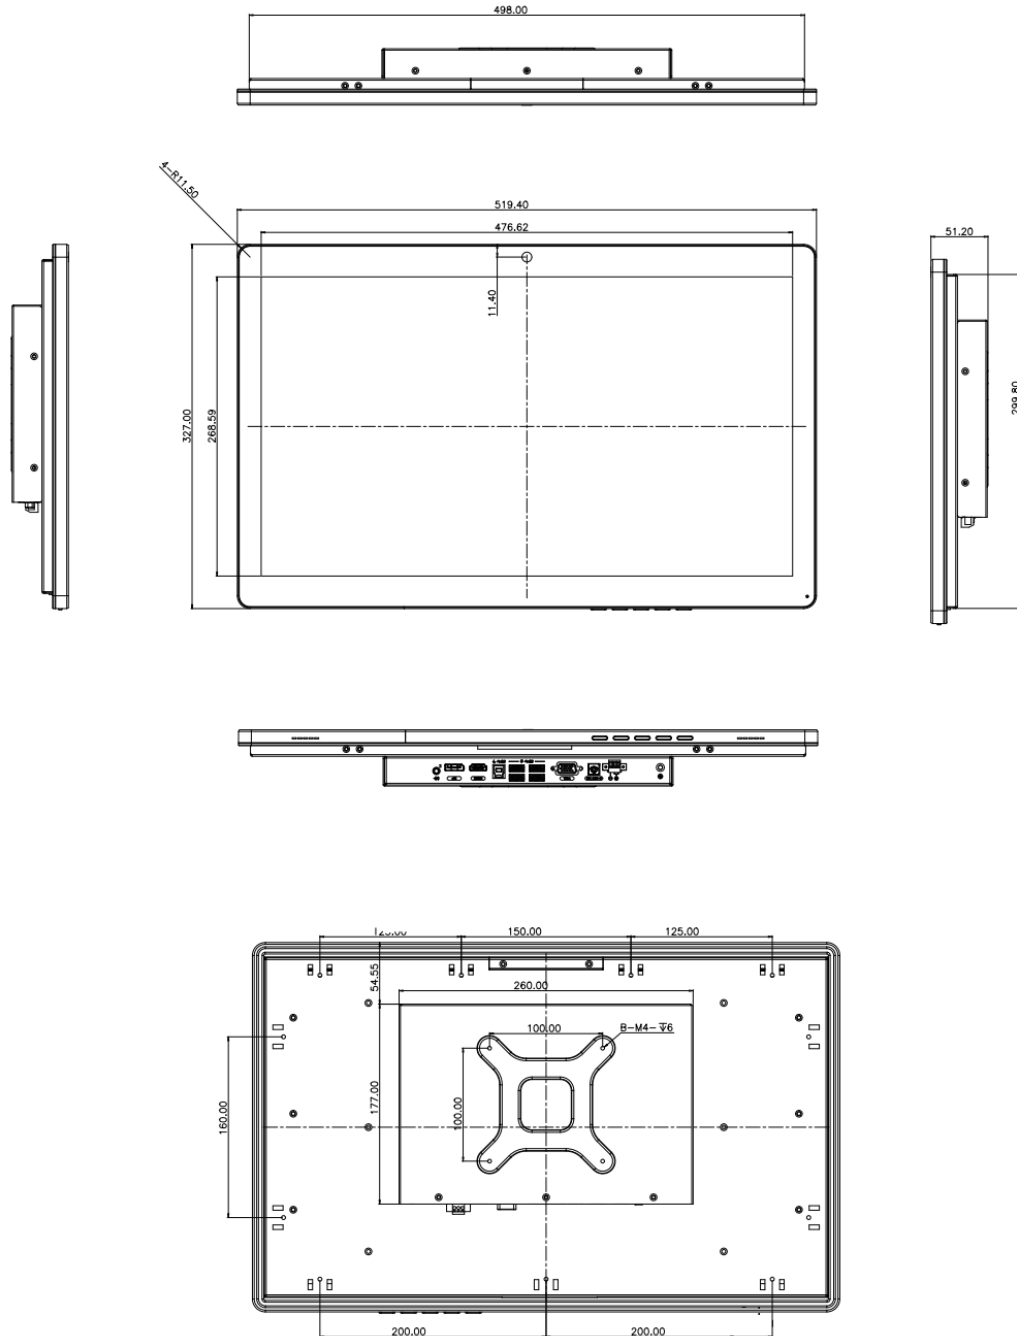

Figure 1-18: DM2-W215K(L) Physical Dimensions (Unit: mm)
1.9.12 DM2-W215K(L) Physical Dimensions
The physical dimensions of the DM2-W215K(L) are shown in the **Figure 1-18**.